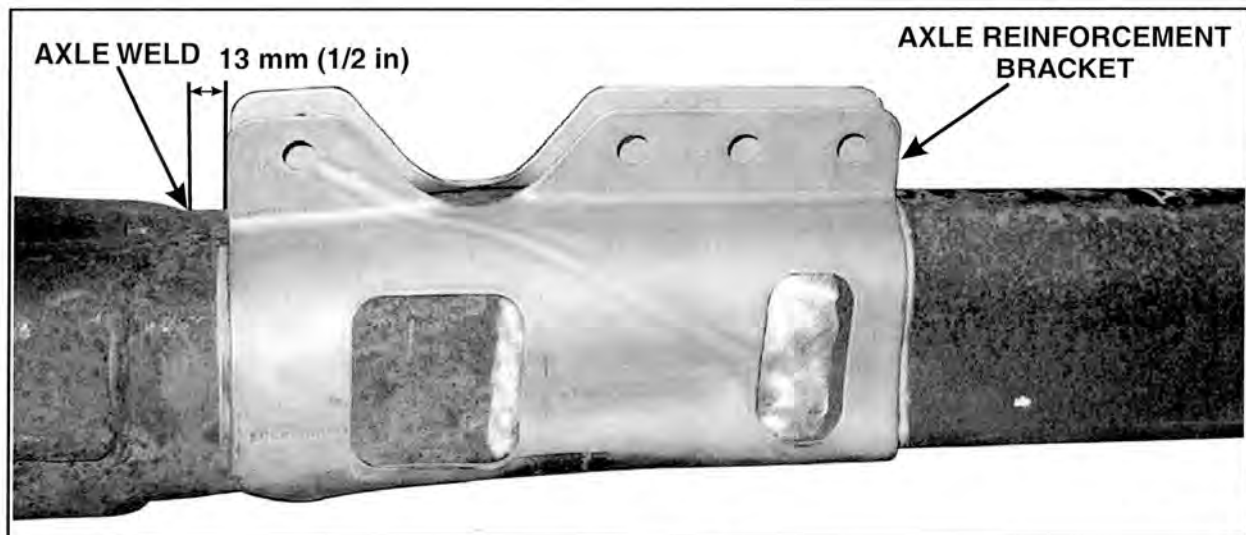

FIGURE 3
- Using a hammer, dry fit both sets of axle reinforcement brackets 13 mm (1/2 in) from the top of the axle weld. Using a paint pen or marker, outline the outer edges of the axle reinforcement brackets. See Figure 3.